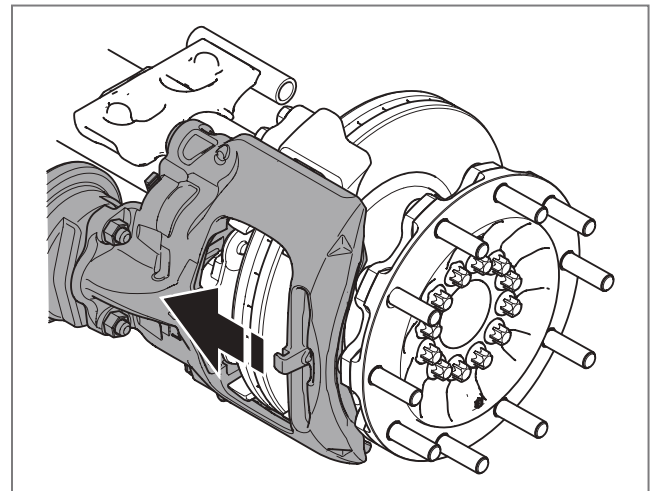

Fig. 32 - Inside position of the brake calliper
1. Move the brake calliper by hand as far as possible in the direction of the arrow, see ► Fig. 32.